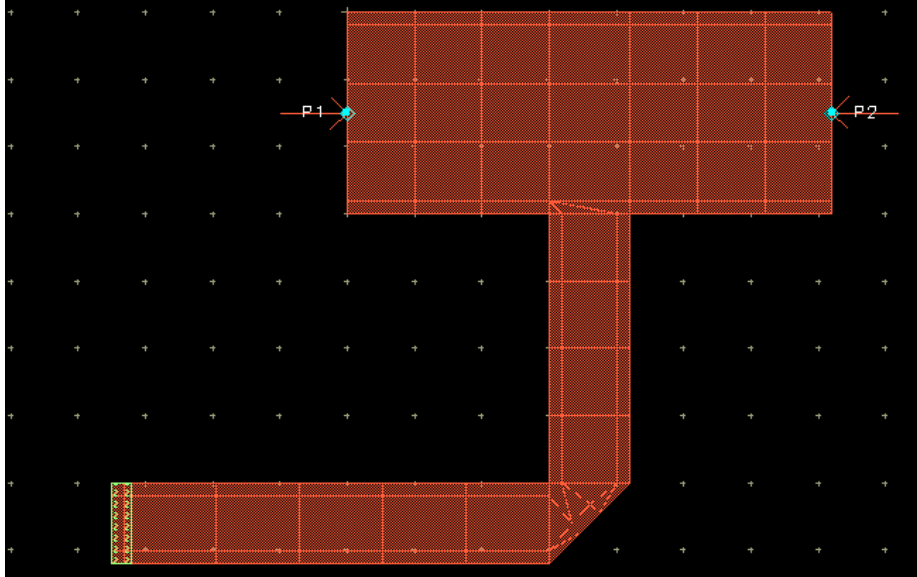

Figure 2. Shunt stub layout in Momentum after completing the mesh computation.
- 34) Your layout should now resemble Figure 2.